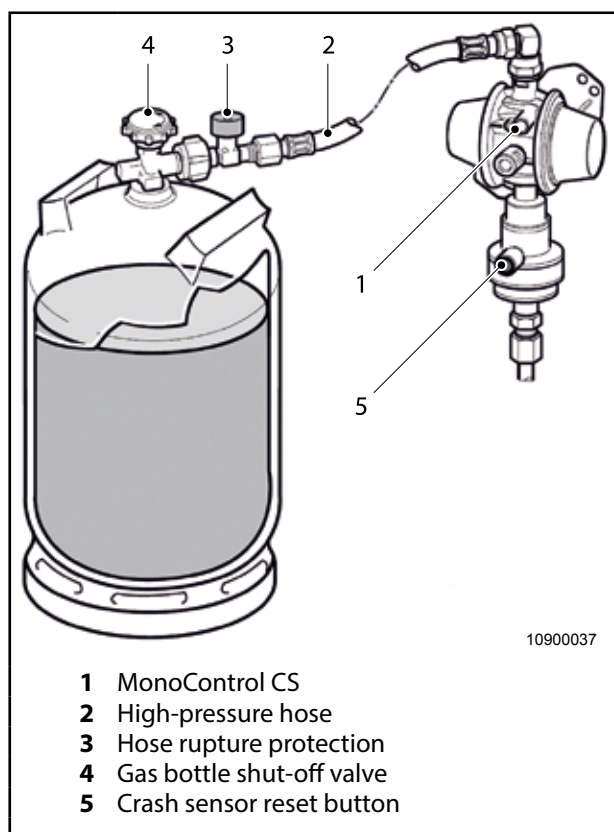

Fig. 51 Truma MonoControl CS
To connect the gas bottle to Truma MonoControl CS (Fig. 51, item 1), a high-pressure hose (Fig. 51, item 2) with hose rupture protection (Fig. 51, item 3) is mandatory.
1. Open the gas bottle shut-off valve (Fig. 51, item 4).
2. Press green hose rupture protection button (Fig. 51, item 3) strongly.
3. If necessary – e.g. after initial installation or if the gas bottle accidentally strikes against the MonoControl CS – press the green reset button to reset the crash sensor trigger element (Fig. 51, item 5).
1. Close gas bottle shut-off valve (Fig. 51, item 4) of the empty gas bottle.
2. Unscrew high-pressure hose (Fig. 51, item 2) from the gas bottle. If fitted, take the plug-on adapter off.
4. Screw high-pressure hose (Fig. 51, item 2) onto the gas bottle. If fitted, attach the plug-on adapter.
5. Open gas bottle shut-off valve (Fig. 51, item 4) of the full gas bottle.
6. Press green hose rupture protection button (Fig. 51, item 3) strongly.